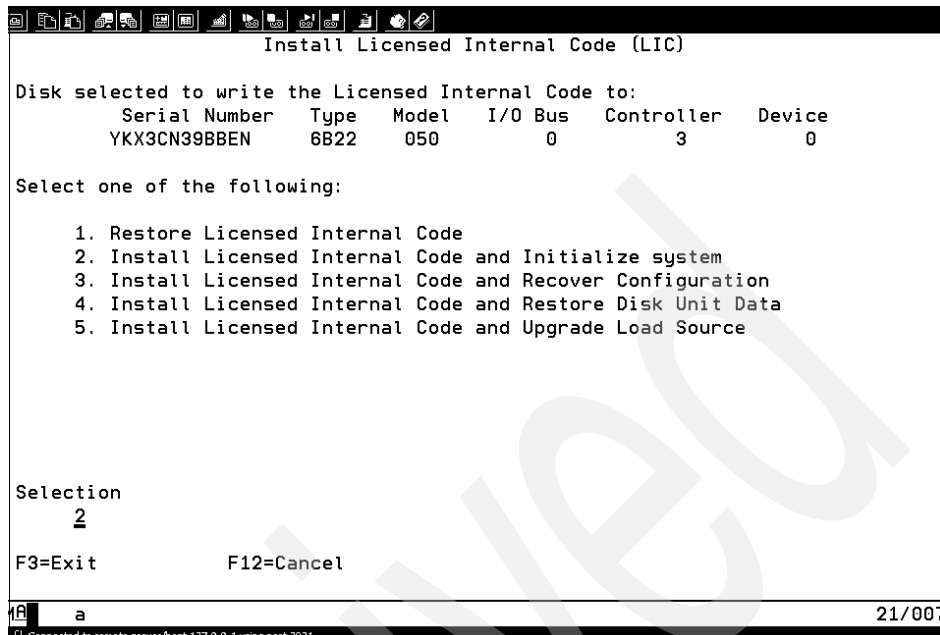

Figure 5-37 Select options
- The install Licensed Code (LIC) menu appears on the console as shown in Figure 5-37 on page 256. Type 2 for Install Licensed Internal Code and Initialize system, then press **Enter** to continue.